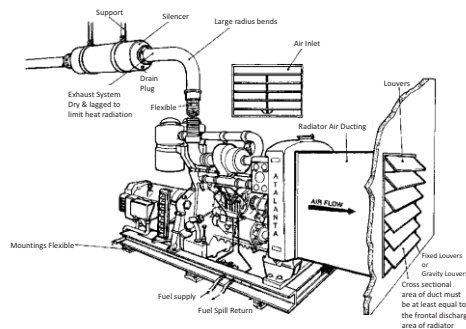

Fig. 2.12.11 Exhaust System
- The functioning of the Exhaust System deployed in the Engine of a Diesel generator. Talk about the components of the Exhaust system (Refer fig 2.12.20 of the participant handbook) and figure 2.12.11 on next page
2. As per the diagram below(Refer to Figure 2.12.11) explain the exhaust system to the participants.